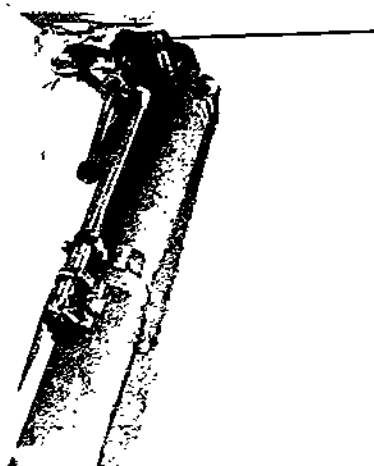

Figure 4-16
4. Set the pre-run tape in place using the creasing wheel as a guide at the start of the joint (Figure 4-16). Some overhang is necessary to compensate for dragging of the tape when the joint is run. For butts and vertical angles leave an overhang of 3 cm; for flats and horizontal angles leave 6 cm. If you over compensate the wiper will cut the tape to the right length. You are now ready to run the joint.